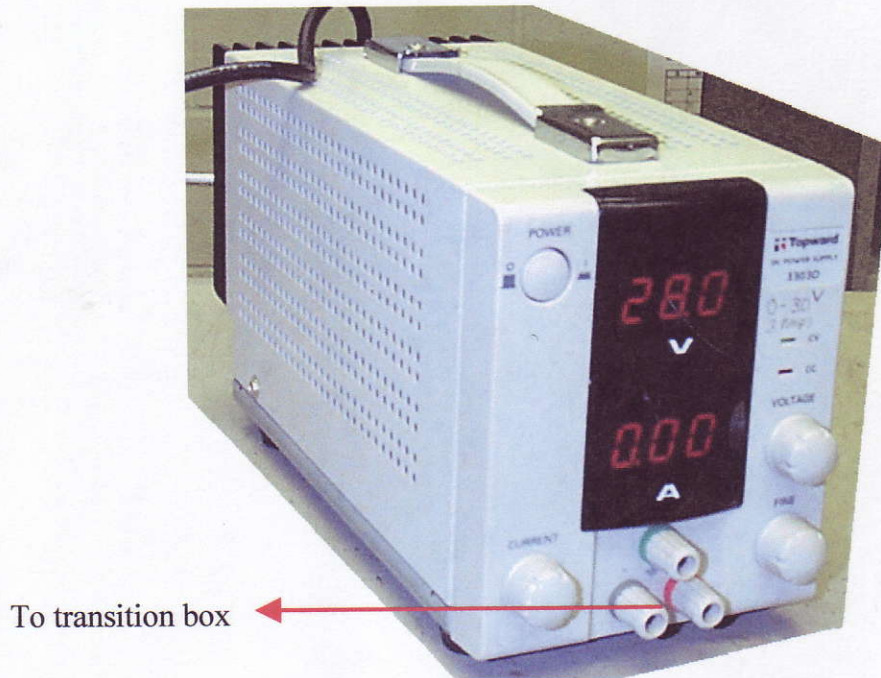

Fig. 9 DC power supply.
Since each DC-DC LVDT has a built-in circuitry, which is an equivalent of LPC-2000, any DC power supply can be used for its operation. An example of DC power supply is shown in Figure 9.
1. Connect a DC power supply to the 110 V, 60 Hz source of electrical power. Turn it on (Figure 9) and wait at least 30 minutes (warm-up time) before proceeding to step 2.